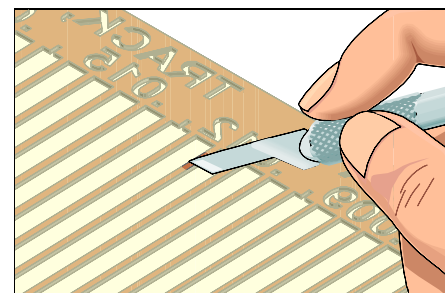

Figure 3: Scrape off epoxy bonding film from solder joint connection area on back of new conductor.
8. Before trimming out the new conductor carefully scrape off the adhesive epoxy film from the solder joint connection area on the back of the new conductor. (See Figure 3).